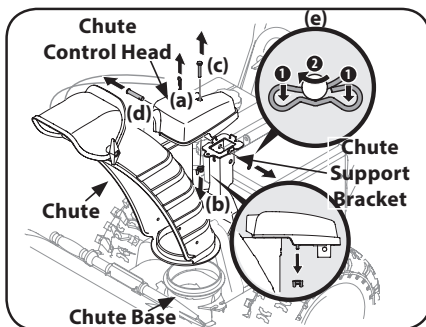

Figure 2-38
1. Remove cotter pin (a), wing nut (b) and hex screw (c) from chute control head. Remove clevis pin (d) and bow-tie cotter pin (e) from chute support bracket. See Figure 2-38.